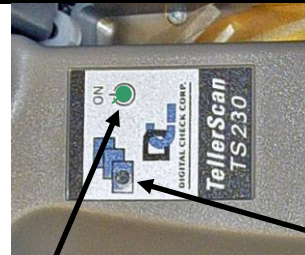

Fig. 10: When the scanner is acquired by the application, the right LED turns green.
3. Slide the items into the automatic-feeder until the left LED light illuminates (Fig. 10).